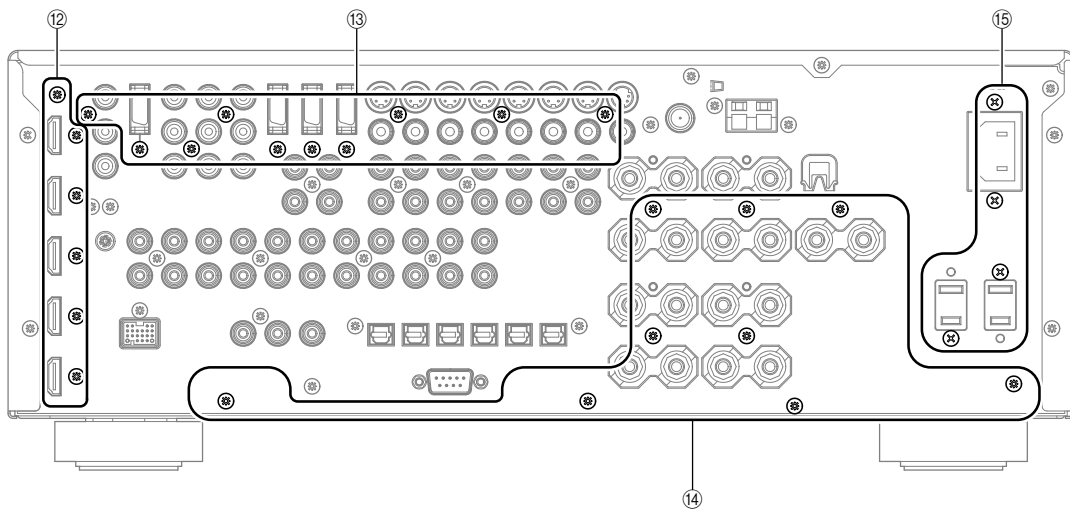

Fig. 6
- e. Remove 6 screws (⑫). (Fig. 6)
- d. ⑫のネジ6本を外します。(Fig. 6)
- a. Remove 6 screws (⑬). (Fig. 6)
- a. ⑬のネジ10本を外します。(Fig. 6)
- Remove 11 (U, C, T, A, B, G, E models) / 13 (R, L models) screws (14) and 4 (U, C, R, T, A, B, G, E, L models) / 2 (K model) screws (15). (Fig. 6)
- 14のネジ9本、15のネジ4本を外します。(Fig. 6)